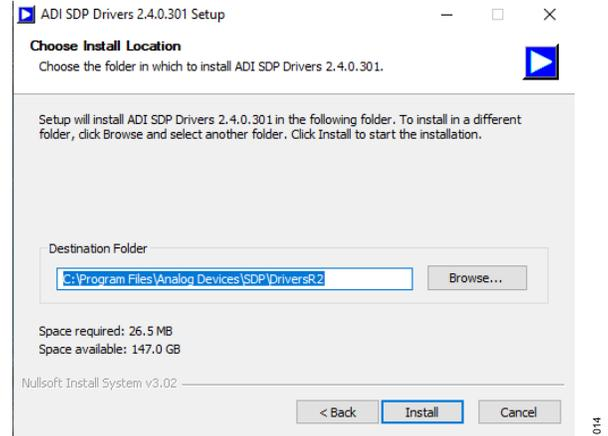

Figure 14. Choose Install Location Window
- In the **Choose Install Location** window that appears (see Figure 14), click **Install**. To select a different destination folder, click **Browse...** to select a different destination, then click **Install**.